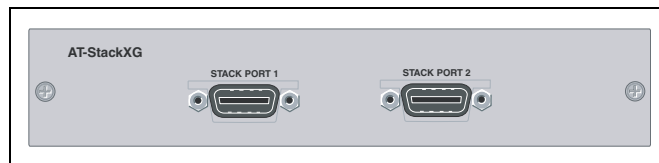

Figure 30. AT-StackXG Stacking Module
- ❑ The AT-StackXG has two full-duplex, 12 Gbps stacking ports, shown in Figure 30.